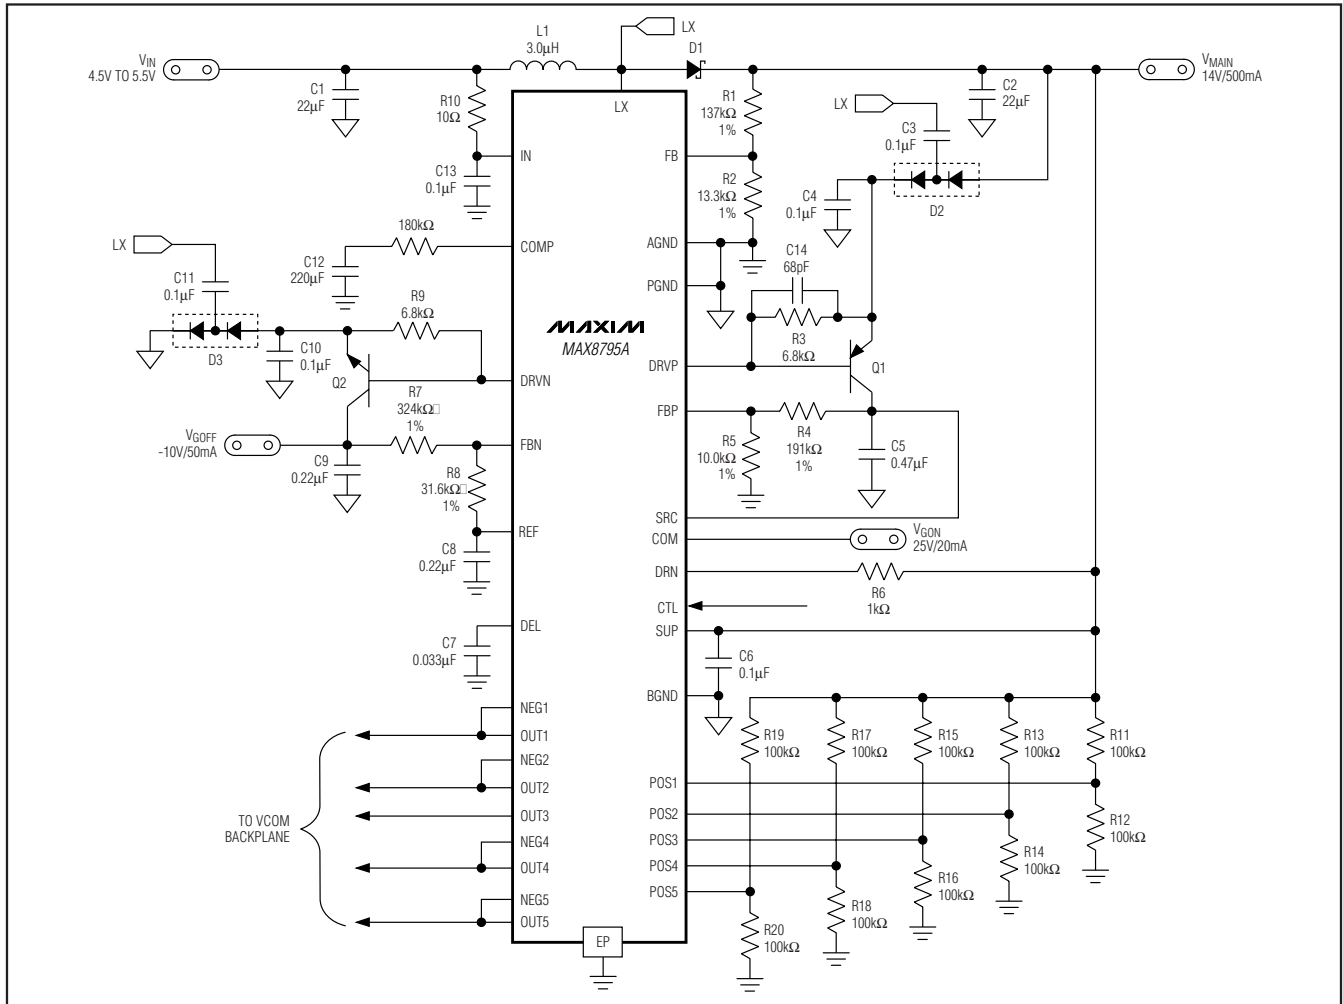

Figure 1. Typical Operating Circuit
(Circuit of Figure 1,  $V_{IN} = 5V$ ,  $V_{MAIN} = 14V$ ,  $V_{GON} = 25V$ ,  $V_{GOFF} = -10V$ ,  $T_A = +25^\circ C$ , unless otherwise noted.)
The MAX8795A typical operating circuit (Figure 1) is a complete power-supply system for TFT LCDs. The circuit generates a +14V source-driver supply and +25V and
-10V gate-driver supplies. The input voltage range for the IC is from +2.5V to +5.5V. The listed load currents in Figure 1 are available from a +4.5V to +5.5V supply. Table 1 lists some recommended components, and Table 2 lists the contact information of component suppliers.
The gate-on linear-regulator controller (REG P) is an analog gain block with an open-drain n-channel output. It drives an external pnp pass transistor with a 6.8kΩ base-to-emitter resistor (Figure 1). Its guaranteed base-drive sink current is at least 1mA. The regulator including Q1 in Figure 1 uses a 0.47μF ceramic output capacitor and is designed to deliver 20mA at 25V. Other output voltages and currents are possible with the proper pass transistor and output capacitor. See the *Pass-Transistor Selection and Stability Requirements* sections.
The gate-off linear-regulator controller (REG N) is an analog gain block with an open-drain p-channel output. It drives an external npn pass transistor with a 6.8k $\Omega$  base-to-emitter resistor (Figure 1). Its guaranteed base-drive source current is at least 1mA. The regulator including Q2 in Figure 1 uses a 0.47 $\mu$ F ceramic output capacitor and is designed to deliver 50mA at -10V. Other output voltages and currents are possible with the proper pass transistor and output capacitor (see the *Pass-Transistor Selection* and *Stability Requirements* sections).
REG N is typically used to provide the TFT-LCD gate drivers' gate-off voltage. A negative voltage can be produced using a charge-pump circuit as shown in Figure 1. REG N is enabled after the voltage on REF exceeds 1.0V. Each time it is enabled, the control goes through a soft-start routine that ramps down its internal reference DAC from VREF to 250mV in 128 steps.